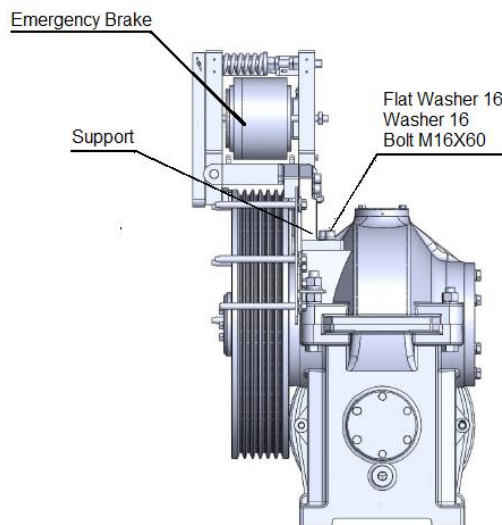

Figure 38 Sheave Replacement Emergency Brake removal
3. If the machine has the Emergency Brake, loosen the Bolt M16X60, then remove the Emergency Brake and Support. See figure 38.